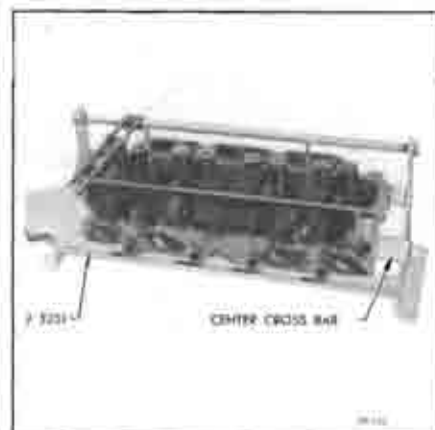

Figure 60-132—Removing Valve in Holding Fixture J-5251
1. Place cylinder head on Holding Fixture J-5251 with valve springs straight up. Compress valve springs with fixture lever and remove the spring cap keys, then remove the springs and caps. See Figure 60-132.